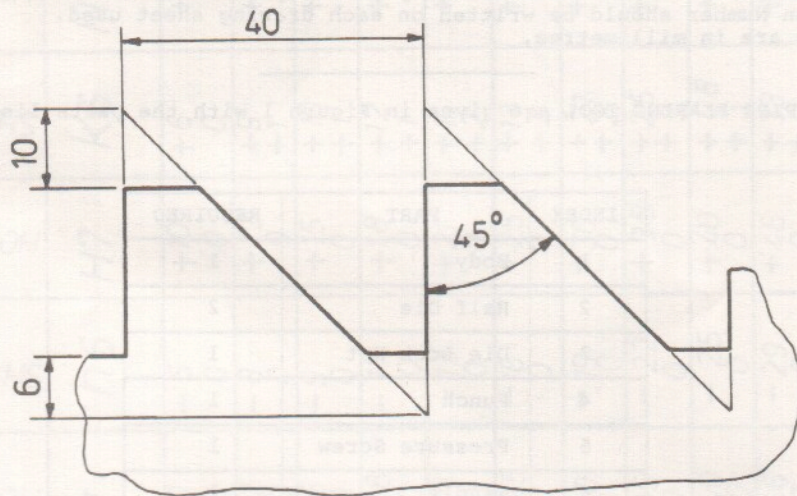

FIG. 4.
4. (a) A profile of two threads of a buttress screw is shown in Fig. 4. Draw two full threads of the buttress screw. The screw should have a single start right hand thread with an outside diameter of 120 mm.